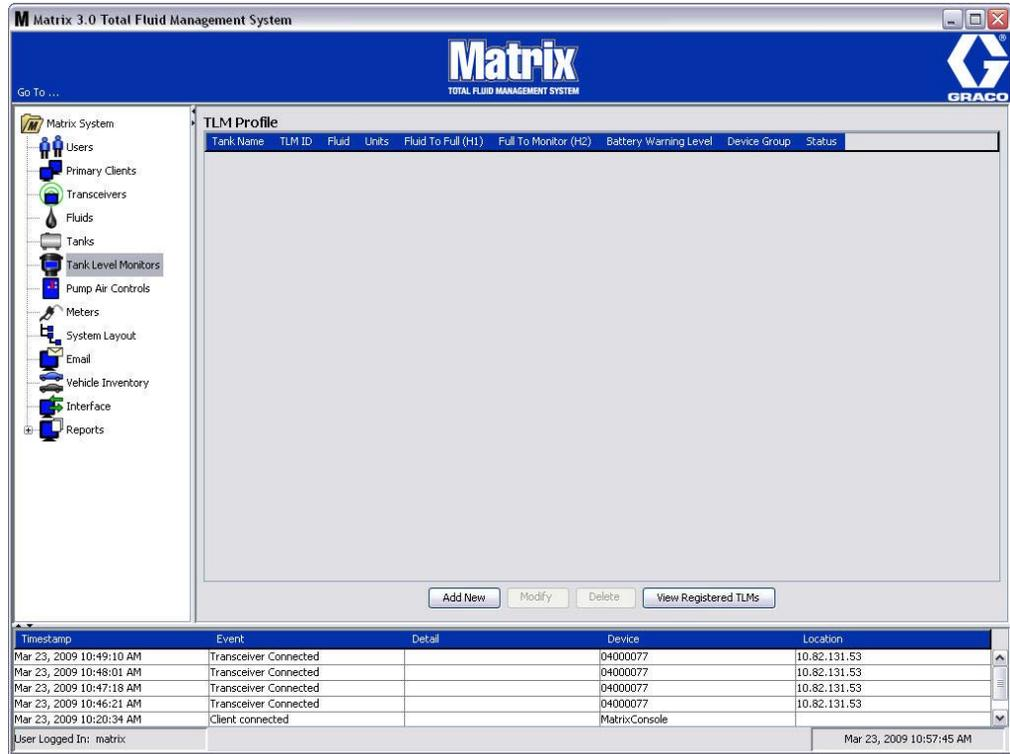

FIG. 120
The screen shown in FIG. 120 on page 94 is used to add, edit, remove and create a profile for the Tank Level Monitors (TLM's) in a Matrix system. Each Matrix tank level monitor (TLM) has embedded in it a unique device ID. The device ID is what differentiates one TLM from another.
2. To create a profile and add a new Tank Level Monitor to the Matrix system, click the Add New button (FIG. 120).